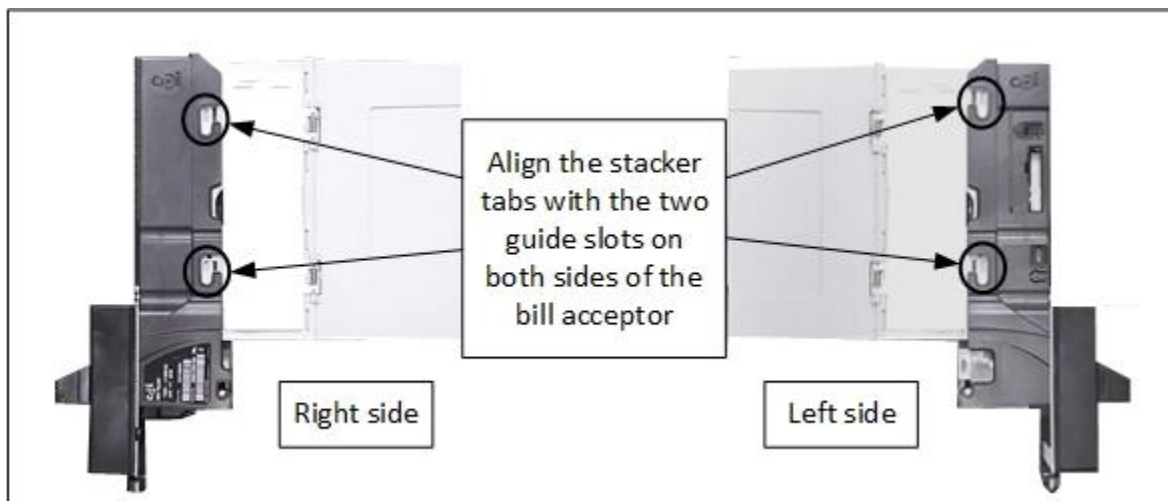

Figure 13. Bill Stacker Replacement
3. Slide the stacker tabs into the guide slots, and then down until it is fully seated, as shown in Figure 13.